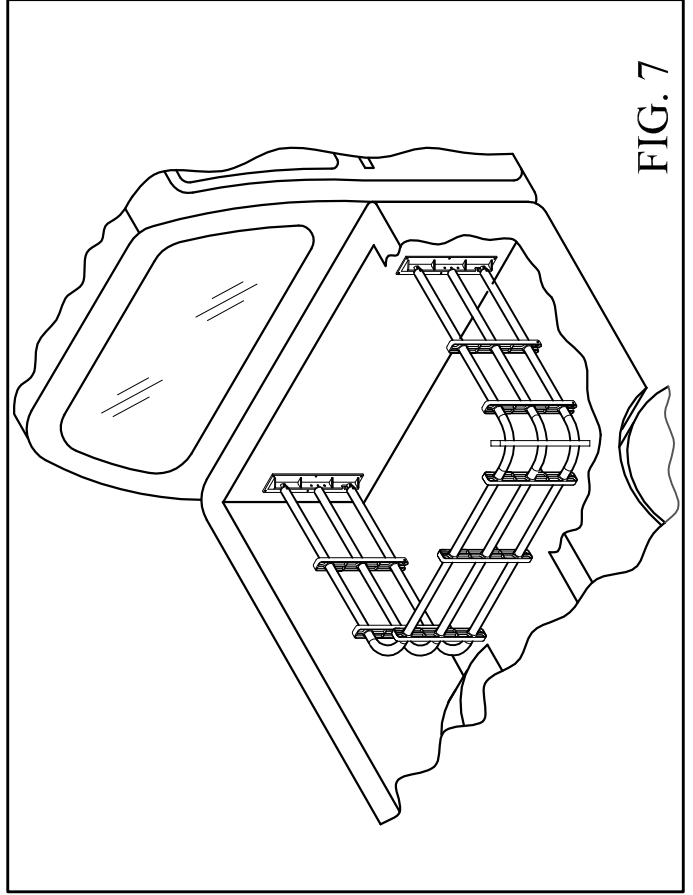

FIG. 7
12. **See Fig 7:** Mounting the Bed Extender to the front panel of the truck bed. This is an optional connection point for your Bed Extender to provide a secure cargo storage area inside the truck bed.